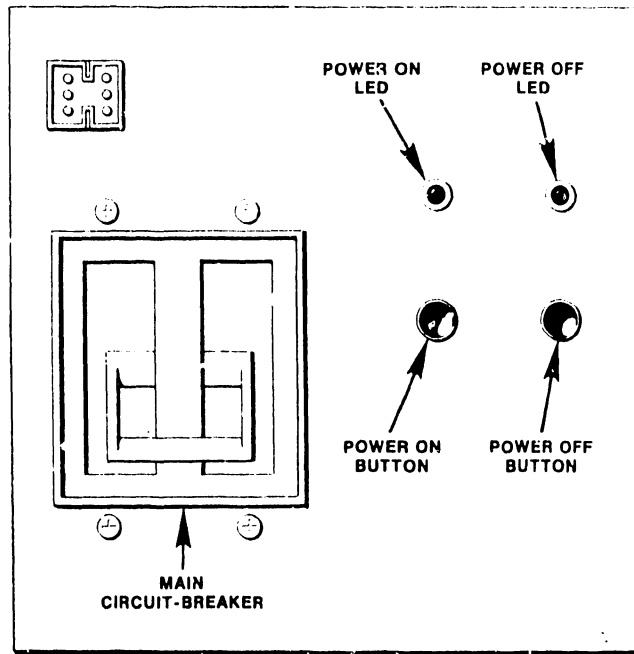

FIGURE 3-17 VS-100 POWER PANEL
2. Perform the following in the sequence given: (See Figures 3-17, -18.)